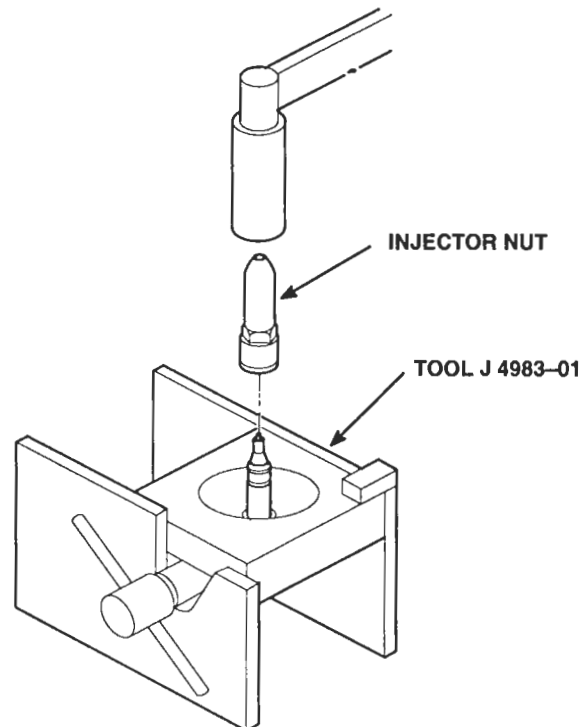

Figure 33. Tightening Injector Nut with Torque Wrench using Tool J 4983-01
22. Use socket J 4983-01 and a torque wrench to tighten the injector nut to 75–85 lb-ft (102–115 N-m) torque (Figure 33.)